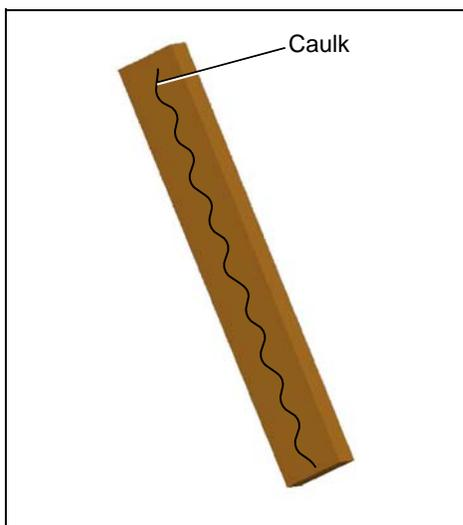

Figure 3B
- a. Caulk the frame boards to seal against the existing wall. (See Figure 3B.)